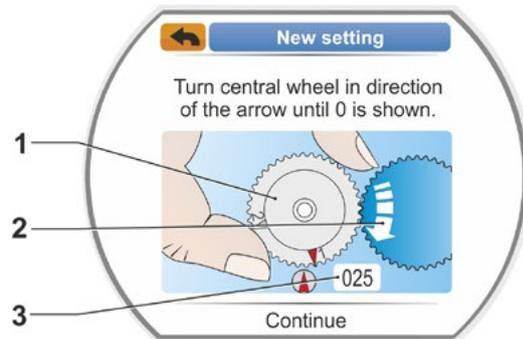

Fig. 8: Adjust central wheel
- Request to 'turn central wheel in direction of the arrow until 0 is displayed' (fig. 8); continue with step 13;
13. Turn central wheel (fig. 8, item. 1) in the indicated direction of the arrow (item 2) until the value (item 3) is set to '000'.